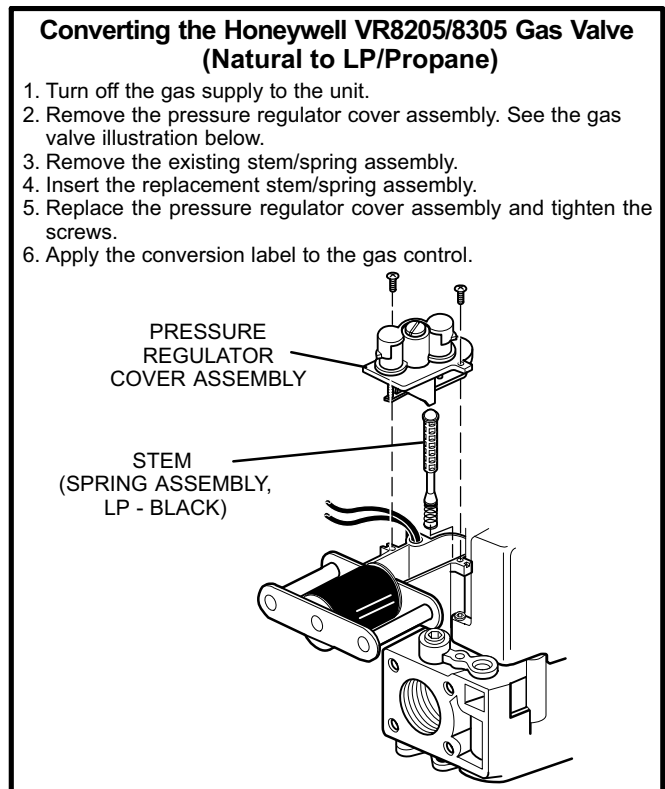

FIGURE 2
- 7- Install spring kit. Refer to figure 2 and manufacturer's instructions packaged with spring kit.